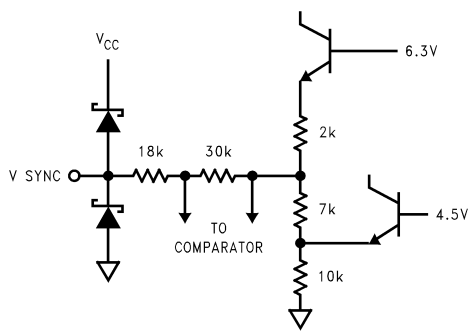

FIGURE 10.
**Pin 7. V SYNC:** This pin accepts AC-coupled V sync of either polarity. See Figure 10 for the input schematic. The input sensitivity of this pin is about 1 VPP. For best noise immunity, a resistor of 10 k $\Omega$  in parallel with a filter capacitor of 0.01  $\mu$ F should be connected from the input side of the coupling capacitor to ground. The values of these components may be